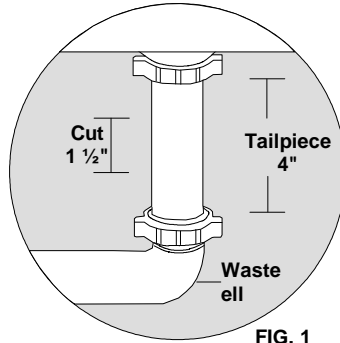

FIG. 1
1. Measure the midpoint on the vertical tailpiece between the basket strainer and the horizontal waste extension. A minimum of 4" of uninterrupted tubing is required. (See Fig. 1)
2. Cut out 1-1/2-inch of tubing (3/4-inch on both sides of the midpoint). (See Fig. 1) Always ensure that tube ends are cut squarely and inserted into the bottom of all slip joint sockets.
NOTE: To install the ET112-002 to a single compartment sink without disposal, follow instructions 1-6 above with the following exception: Once you have removed 1-1/2-inch of the tubing from the center of the tailpiece (Fig. 1), disconnect and lower the J-bend of the trap. Insert the 3-way repair tee, then reconnect the trap. Use a bowl to catch trap water. (See Fig. 6)